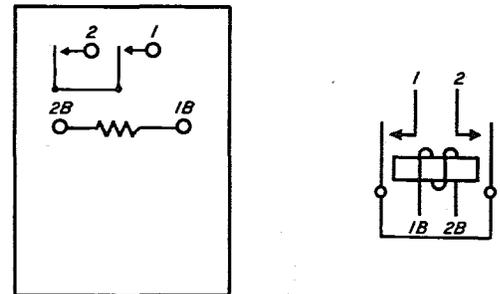

FIG. 42 - WINDING AND SPRING TERMINAL ARRANGEMENT (TERMINAL SIDE) - KS-5450 AND KS-5451 RELAYS HAVING TWO HORIZONTAL ROWS OF TERMINALS
2.61 Where the relay has two horizontal rows of terminals the bottom row is designated by the letter B preceded by the same number as the nearest terminal above. (See Fig. 42)